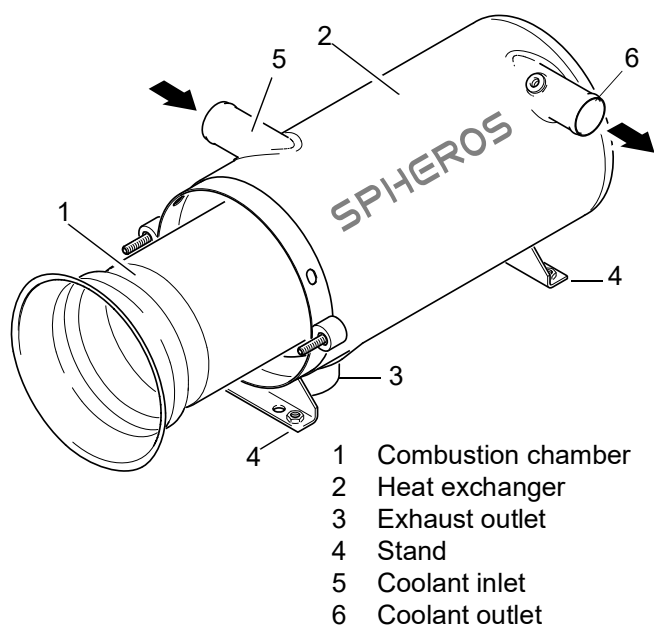

Fig. 805 Combustion chamber removal and installation
2. Pull combustion chamber (1, Fig. 805) out of the heat exchanger (2).
1. Slide combustion chamber (1, Fig. 805) until stop into the heat exchanger (2).
3. Pull combustion chamber (1, Fig. 805) out of the heat exchanger (2) (see 8.10).
4. If necessary, loosen the exhaust line clamp on the exhaust outlet (3).
1. Bring the heat exchanger (2, Fig. 805) into installation
- position and mount the stand (4) to the vehicle using screws, nuts and washers according to the mounting points used.
- If necessary, secure the exhaust line using a clamp to the exhaust outlet (3).
- Fit coolant the hoses onto the coolant inlet (5) and the coolant outlet (6) and secure them with hose clamps applying a tightening torque of  $6 \pm 0.6$  Nm.